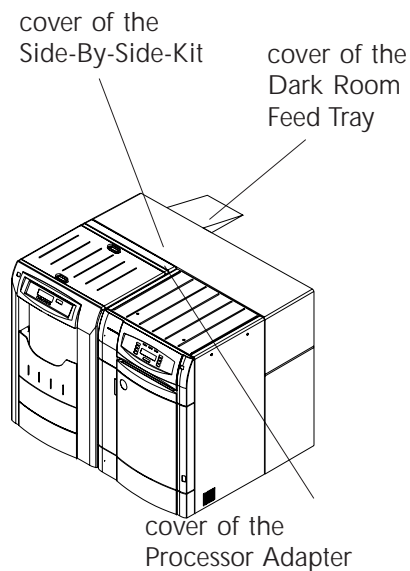

figure 1
- As soon as you open the cover of the Dark Room Feed Tray (fig. 1 and 1.1), the message ***"DARKROOM FILM FEEDER IN USE"*** will appear on the display of the ML 700/ML 700 Plus, and the ML 700/ML 700 Plus cannot be used then.